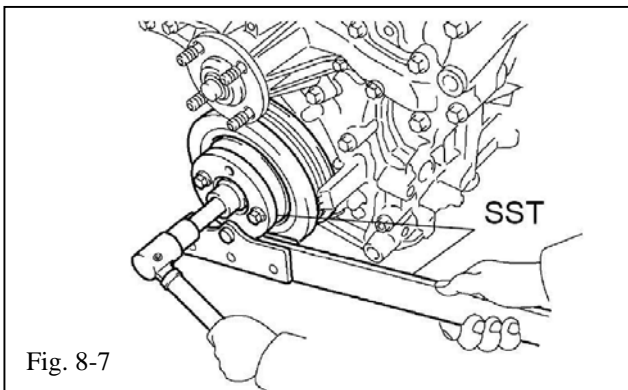

Fig. 8-7
- (h) Place the supplied crankshaft pulley (E1) in front of the existing crankshaft pulley, making certain that the dowel pin in the new pulley is aligned with the keyway in the existing pulley (Fig. 8-7).
- (i) Use the new supplied bolt (E2) and washer (E3) to secure the pulleys (Fig. 8-7).